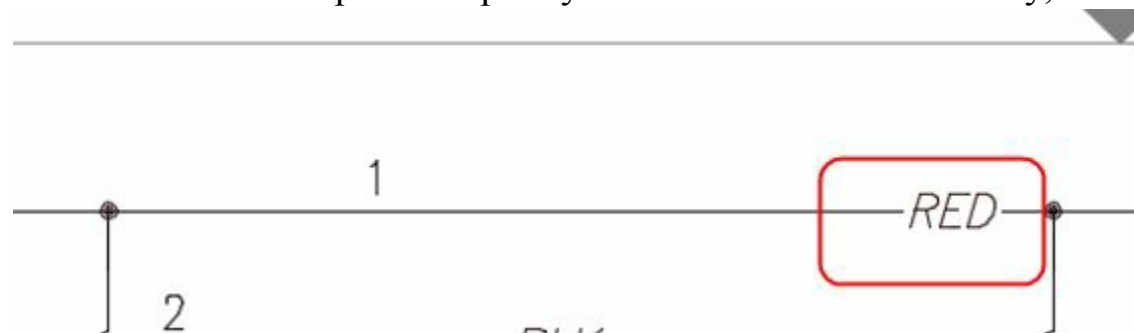

Figure-28. Entity after scooting
- Click at the desired point to specify the new location of the entity; refer to Figure-28.